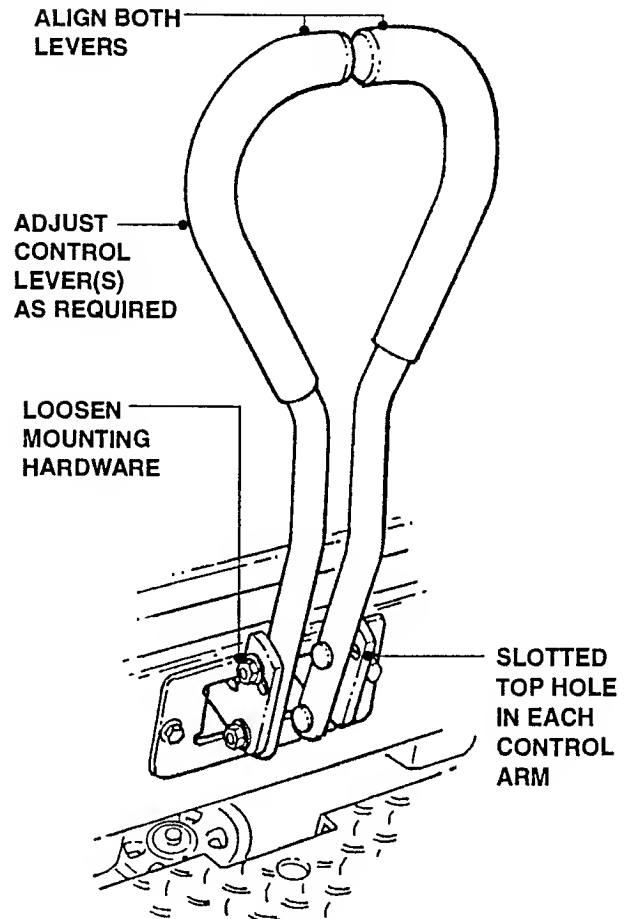

FIGURE 5.5
- a) If one Control is farther forward than the other, loosen its mounting hardware and align the Control Lever with the other. See Figure 5.5.